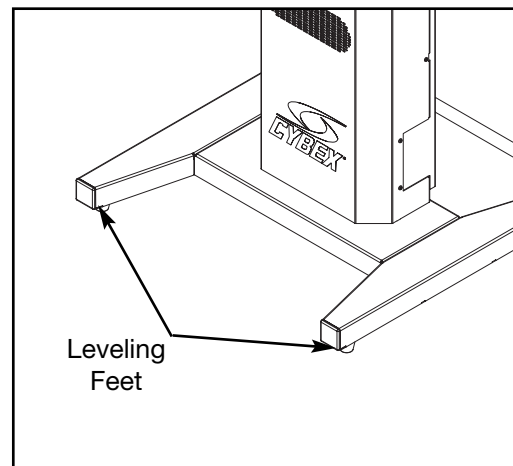

Figure 12
- C. Locate the leveling feet at the front of the unit. See Figure 12.